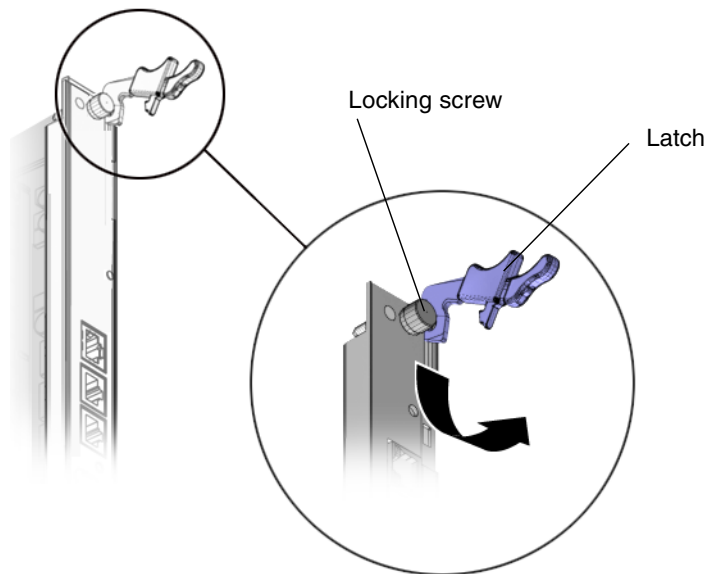

FIGURE 2-14 Injector/Ejector Latch and Locking Screw on the Netra CP3020 Board
3. Prepare the Netra CP3020 board by opening the injector/ejector latches (FIGURE 2-14).